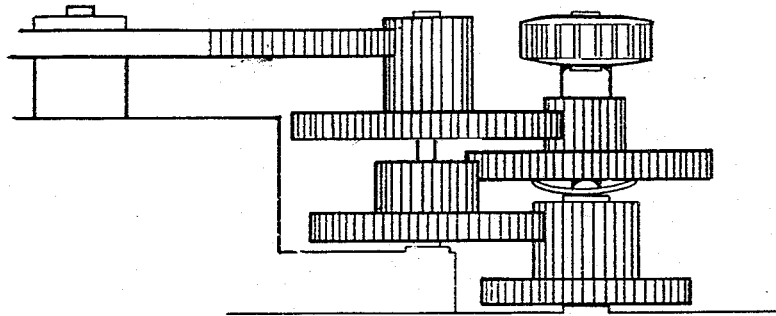

Fig. 47 Gear placement guide
57. Using Fig. 47 as a guide, replace the four plastic gears, metal gear #5 and the spacer.